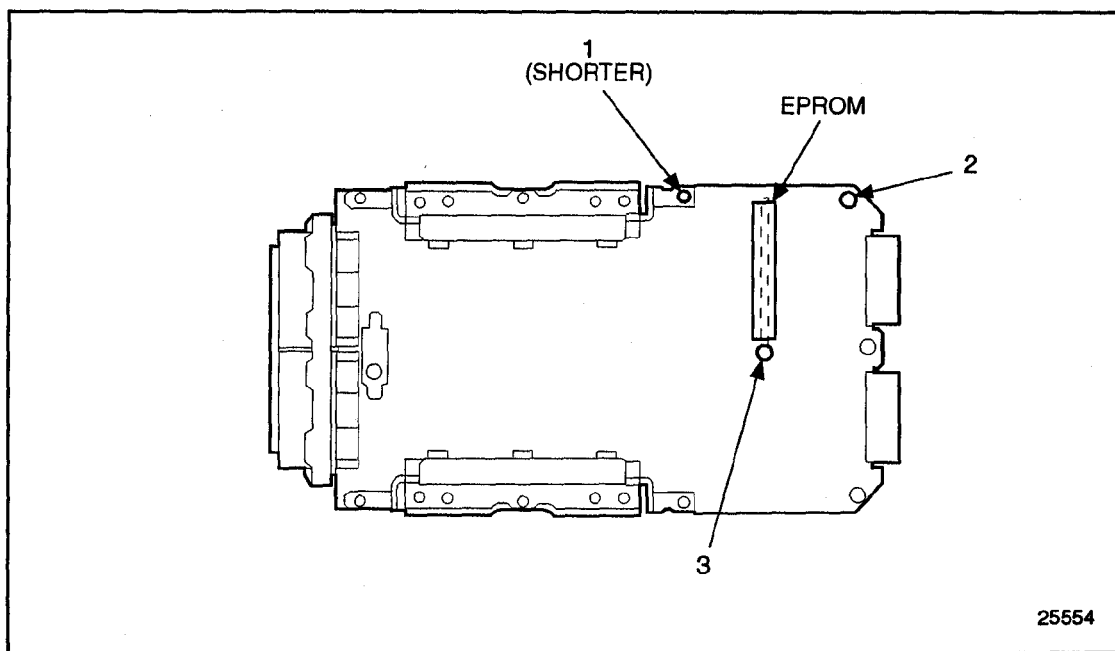

Figure 2-84 EPROM and Spacer Locations
3. See Figure 2-84 and place the shorter spacer with two bands over the hole at location 1. Place the longer spacers over the holes at locations 2 and 3. Lay the stabilizer plate over the EPROM so that the bolt holes line up with the spacers and the holes in the circuit board. Fasten the stabilizer plate to the case with three #8-32 x 1 3/4 in. screws. Torque screws to 3.0-3.7 N·m (26.6-32.7 lb-in.).